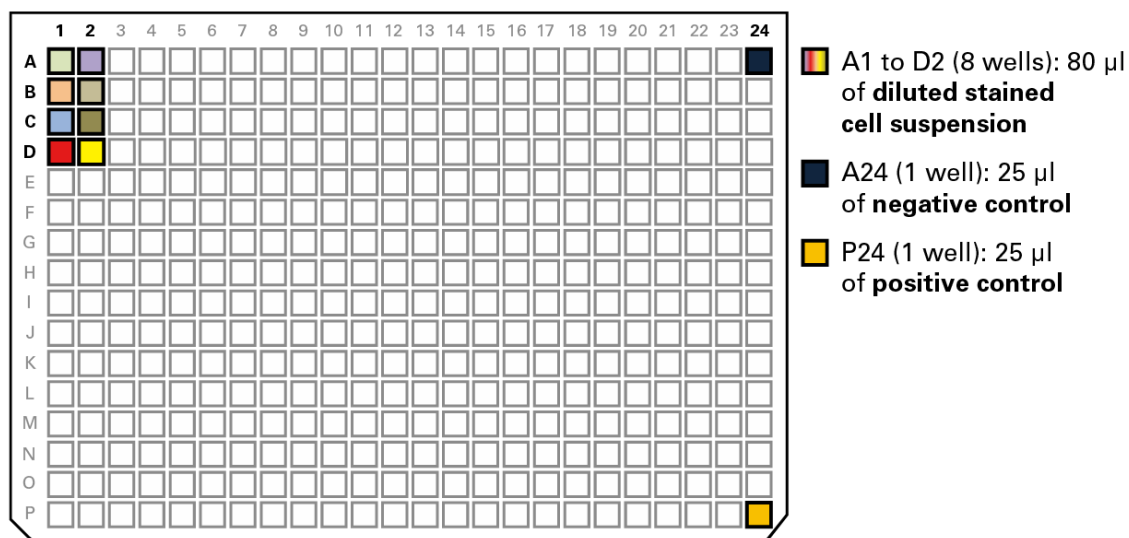

Figure 6. Setting up the 384-Well Source Plate for dispensing cell samples and controls.
**The 1,000-µl total volume of diluted stained cell suspension is sufficient for distributing 80 µl of cell suspension in each of eight source wells (see Figure 6, below).
- Using a 200- μ l pipette tip, slowly and carefully load 80 μ l of cell suspension into wells A1, A2, B1, B2, C1, C2, D1, and D2 of a 384-Well Source Plate as indicated in Figure 6 (below).
- Add positive control and negative control to the 384-Well Source Plate as indicated in the following steps and in Figure 6 (below):